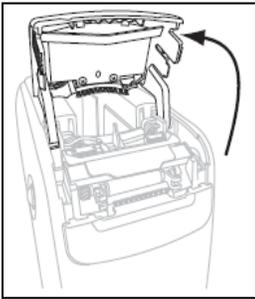

Figure 6
- 4 Refer to Figure 6. Rotate the upper cover up and back.